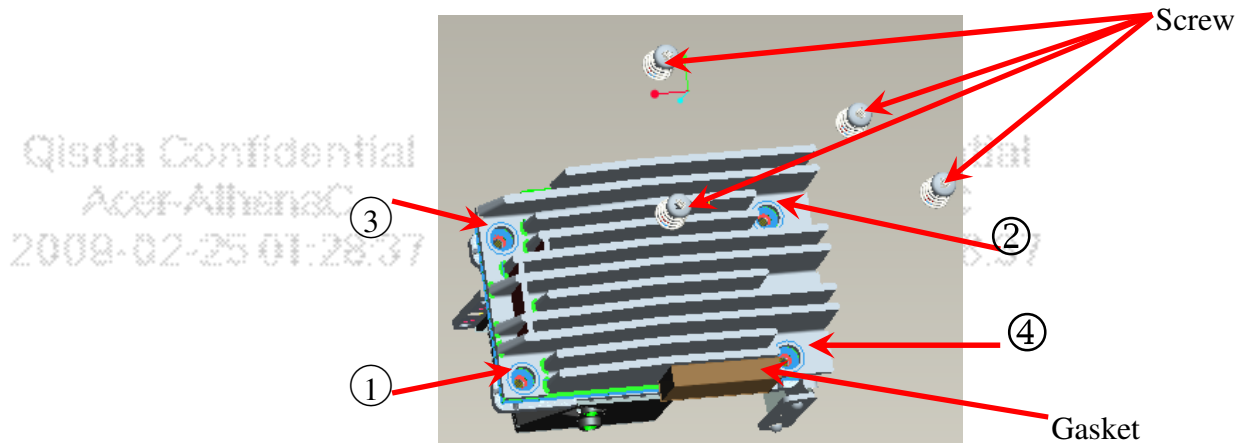

Fig. 7-3
7.3 Assemble Thermal Pad & Gasket Hest-sink then place contact DMD (Fig. 7-3).